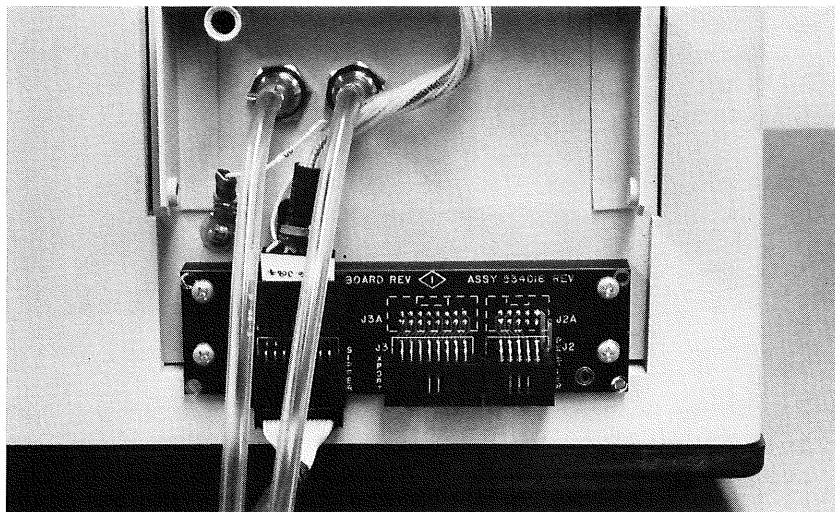

Figure 21.
23. Use the tubing and clips provided to supply water to the instrument. See Figure 21. Close to the end of one of the tubes is a white plastic flow restrictor. Use this tube on the inlet side.